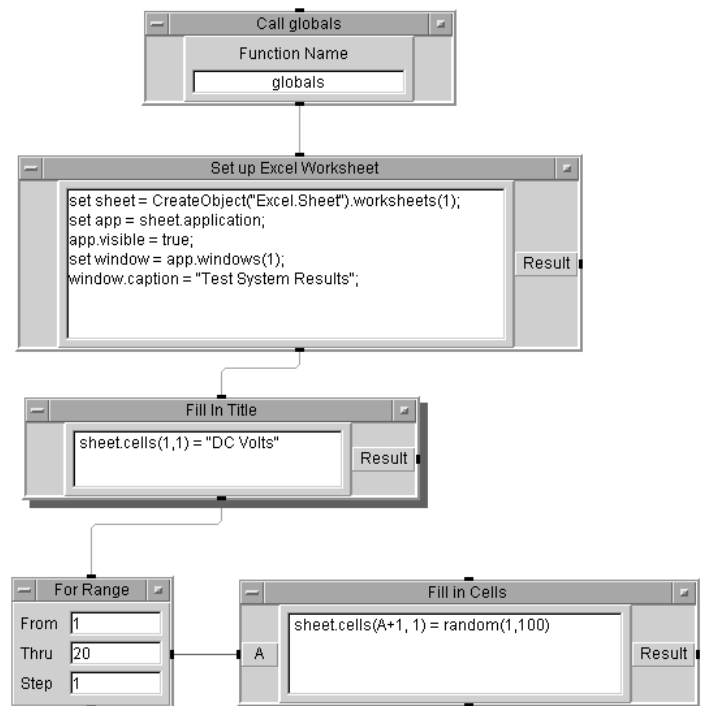

Figure 152 Adding the Title and Data to the Sheet
- 9 Create a Formula object (under **Device** ⇒ **Formula**). Clone the Formula object to create a second Formula object. Create a For Range object (under **Flow** ⇒ **Repeat** ⇒ **For Range**). Rename the objects, connect them, and configure them as shown in Figure 152. (Be sure to delete the input terminal on the Formula object **Fill in Title**.)